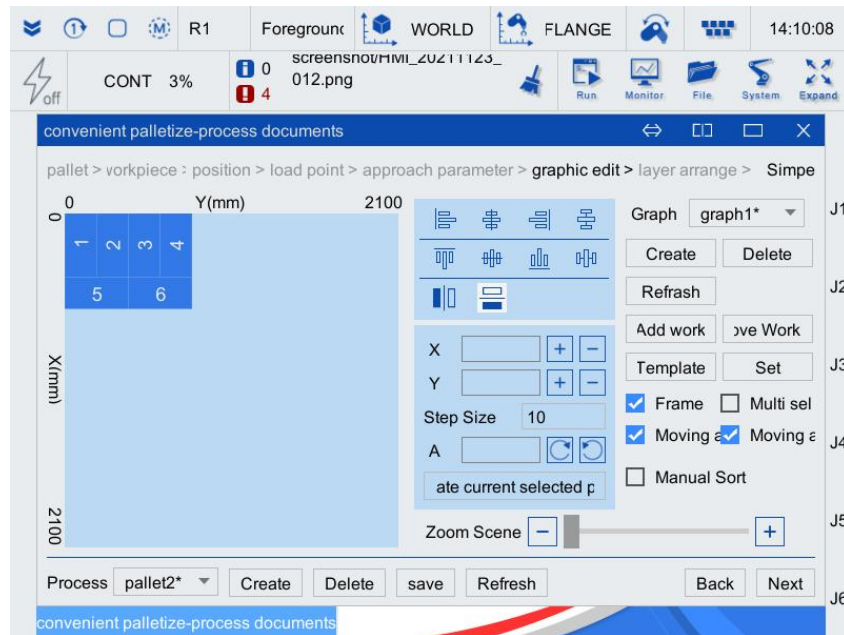

Figure 3-43 Graphic editing interface of the first layer of positive and negative staggered palletizing
Step3. Drag the workpieces with the stylus to make the arrangement of workpieces as shown in Figure 3-43.